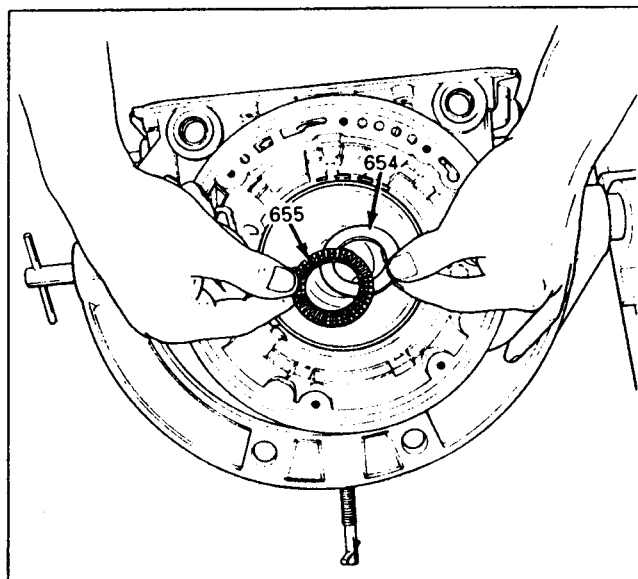

Figure 50
22. Remove the thrust bearing and race from rear of case as shown Figure 50.